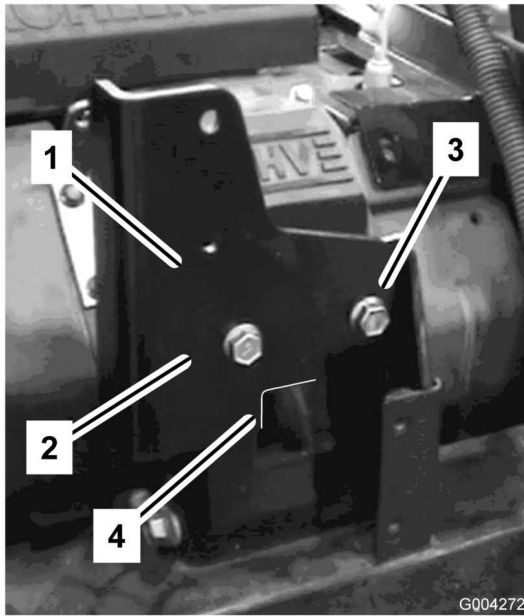

Figure 18
2. Install the new shift selector mounting bracket to the frame at the location previously prepared. Align the holes in the bracket with the previously drilled holes in the frame (Figure 18). The rounded square cutout in the frame should be flush with the selector bracket indent.
3. Use two bolts (5/16 x 1 inch) and two lock nuts (5/16 inch) to secure the bracket to the frame (Figure 18). Torque the fasteners to 9 ft-lb (13 N·m)